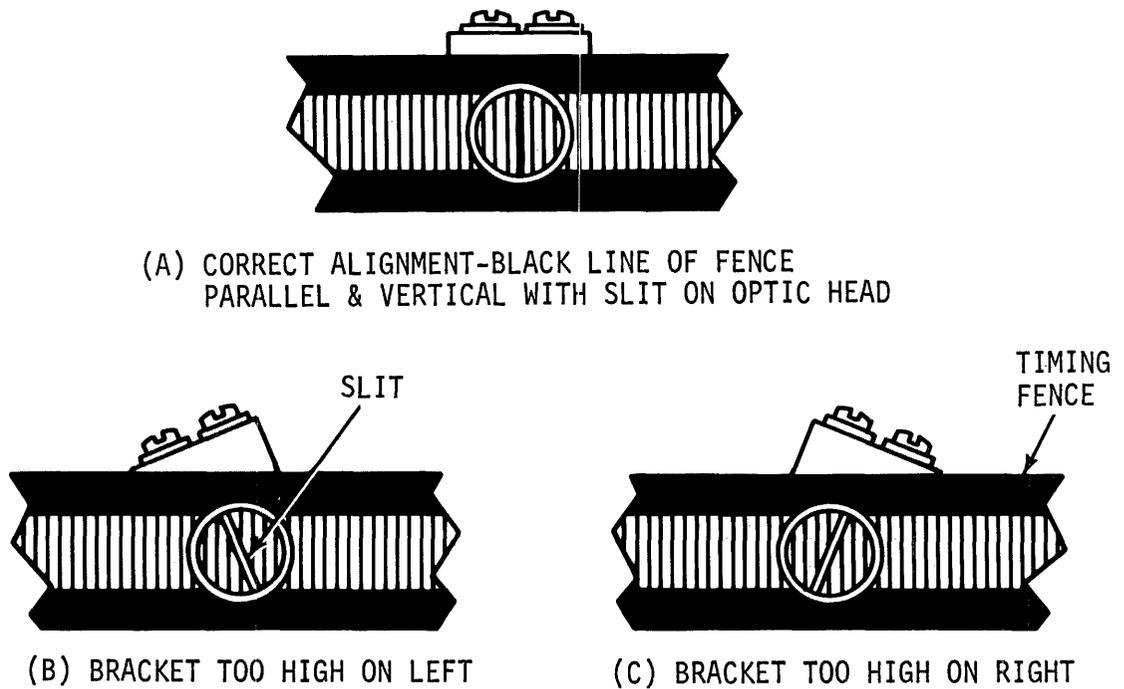

Figure 5-11. FIBRE OPTICS HEAD ALIGNMENT AND FLEXIBLE TIMING FENCE
5. From a position in front of optic timing fence (B-36) and with fibre optic bundle (B-31) pointing to a light source, correctly align illuminated slit (B-40) on optics head (B-31) by observing through empty light housing (B-32) so that light slit on optics head is completely blocked by any black line on the timing fence. (Figure 5-11 (A)).
6. The following two conditions may apply to light alignment in previous step 5 when the slit on optics bundle is out of alignment with respect to the black line on timing fence (Figure 5-11 (B) and (C)).
- a. If the bracket (B-26) holding the optics head is too high on left (Figure 5-2 (B)), tap bracket to align slit and black line (Figure 5-11 (A)).
- b. If the bracket holding the optics bundle is too high on the right (Figure 5-11 (C)), tap bracket to align slit and black line (Figure 5-11 (A)).
7. Insert lamp (B-41) into socket (B-42) attached to lamp retainer (part of lamp socket), but note that prior to insertion into lamp ass'y be certain lamp filament (inside lamp B-41) is in a vertical plane paralleling slit (B-40) in the opposing fibre optics head (B-31) for maximum blockage of light by black line on fence (Figure 5-11 (A)). Insert and tighten screw (B-37), washers (B-38, 44) into lamp retainer (B-42) and lamp ass'y (B-32).